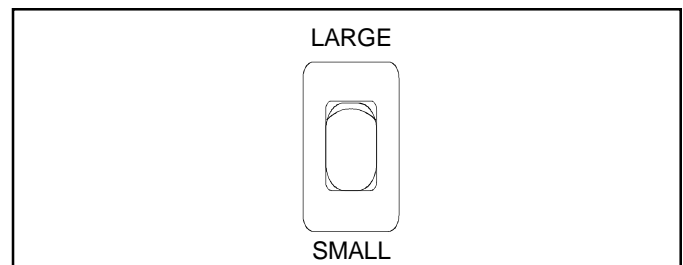

Figure 14
1. Depress *Element Size* switch upward. (Figure 14)